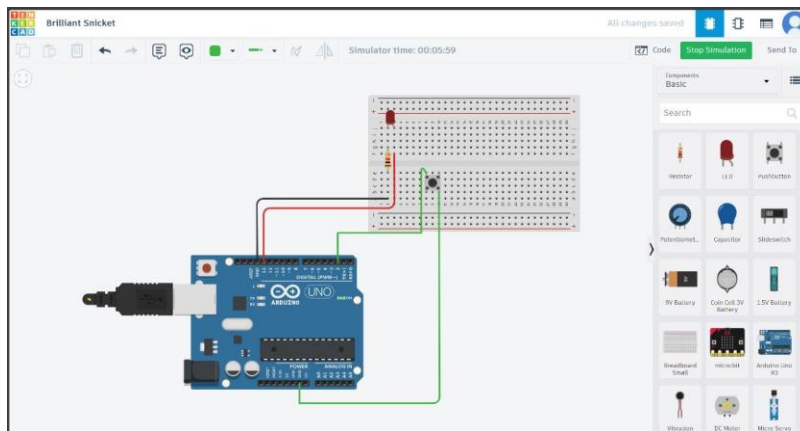

Figure 1 Button Not Pressed
**Figure 1** shows the circuit in its default state, where the button is not pressed and the LED remains OFF.